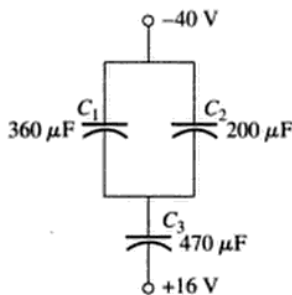

FIG. 10.121
50. Find the voltage across and the charge on each capacitor for the circuit in Fig. 10.121.